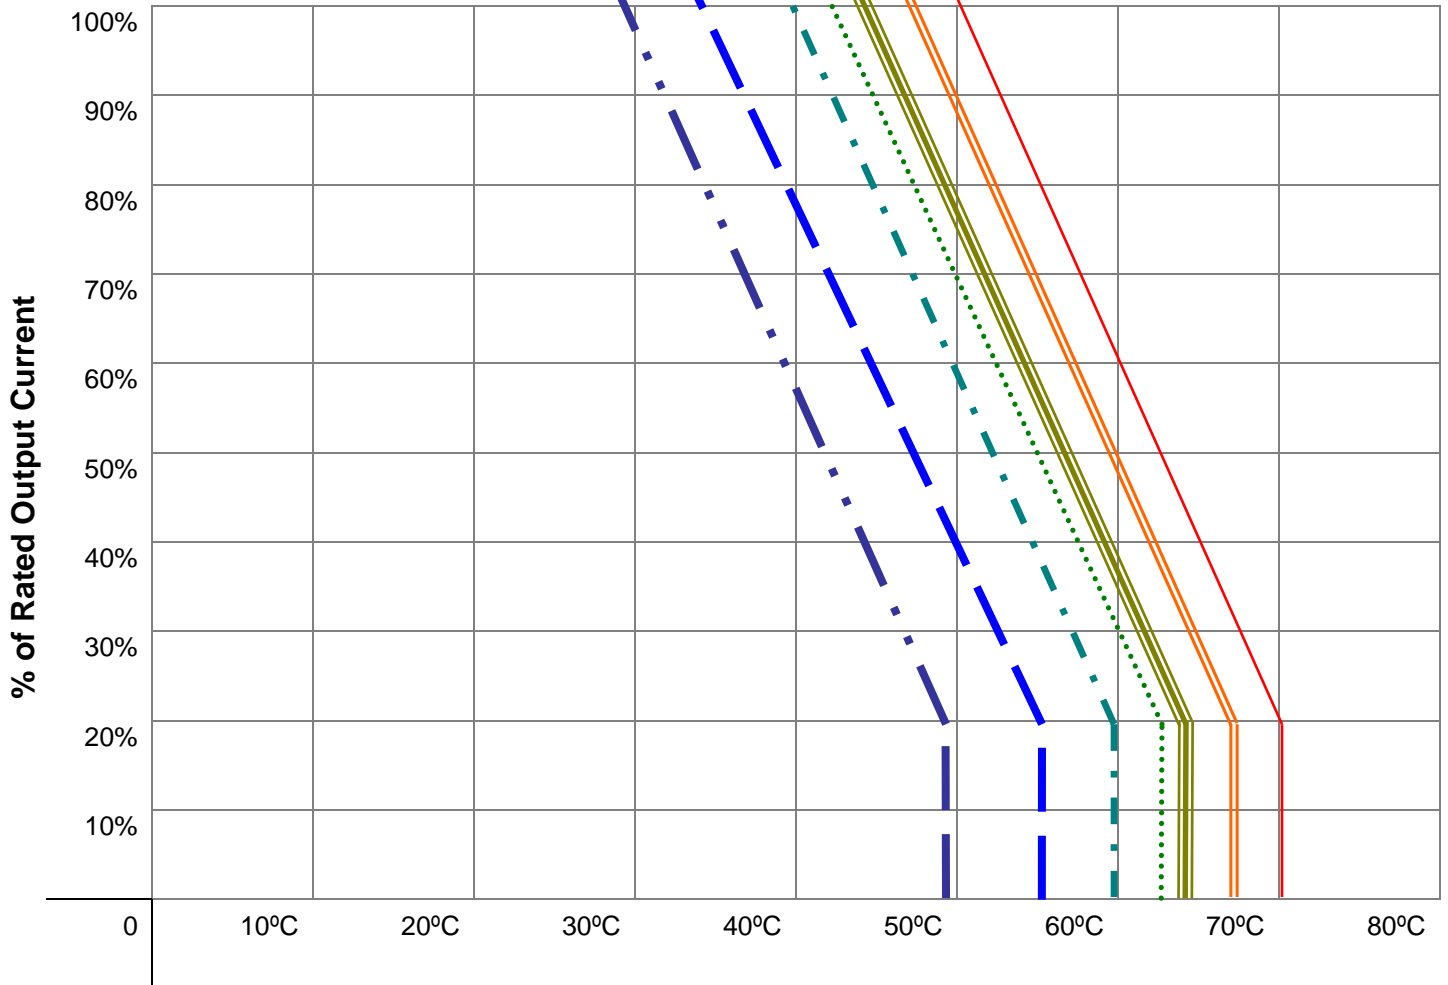

Fig. 2 - Typical Temperature/Altitude De-Rating Chart
- **Temperature Correction & Altitude Correction**, the factors related to these items require more than basic consideration. In many cases the actual correlation is such that you can de-rate the charger by application rather than performance. For example, as you increase altitude the ambient temperature could be lower. Since that is interrelated you could have a charger in an application at 10,000 feet but the highest ambient might be only 40 deg C rather 50 deg C to still allow for 100% of rated output. (See Figure 2) In this case there would be no reason to select a larger charger to accommodate this environment, since the existing charger could meet the new environmental situation. It is imperative that you consult a charger manufacturers de-rating chart to determine actual charger performance.